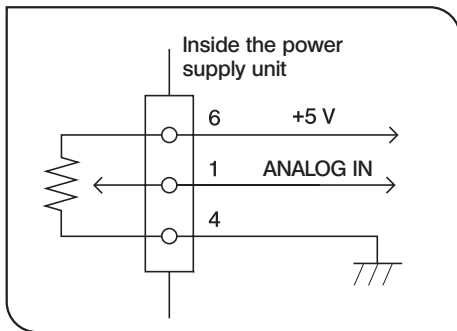

Fig. 7
3 Controlling the Amount of Light with External VR (Fig. 7)
1. Connect a VR as shown in Fig. 7.
2. Set the main switch to "I" (ON).